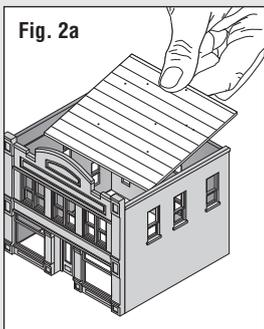

Fig. 2a
- Remove Roof ② from sprue. Sand edge smooth where tabs were removed.
- Slid into place. Roof should set squarely on side support ledges. (Fig. 2a)